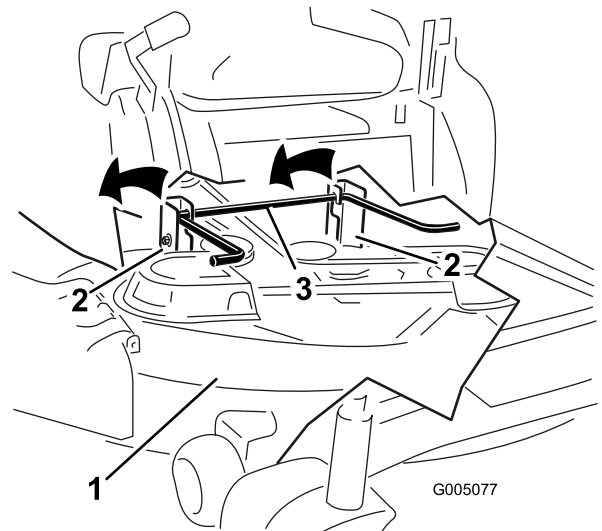

Figure 58
5. Lift the rear of the mower deck and guide the hanger brackets over the rear lift rod (Figure 58).